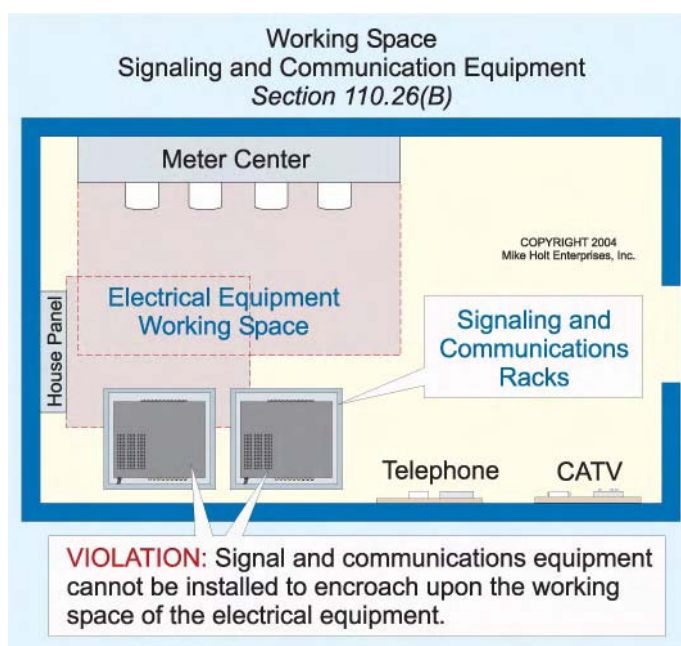

Figure 110–46
(2) Large Equipment. For equipment rated 1,200A or more, an entrance measuring not less than 24 in. wide and 6½ ft high is required at each end of the working space. Where the entrance to the working space has a door, the door must open out and be equipped with panic hardware or other devices that open under simple pressure. **Figure 110–47**